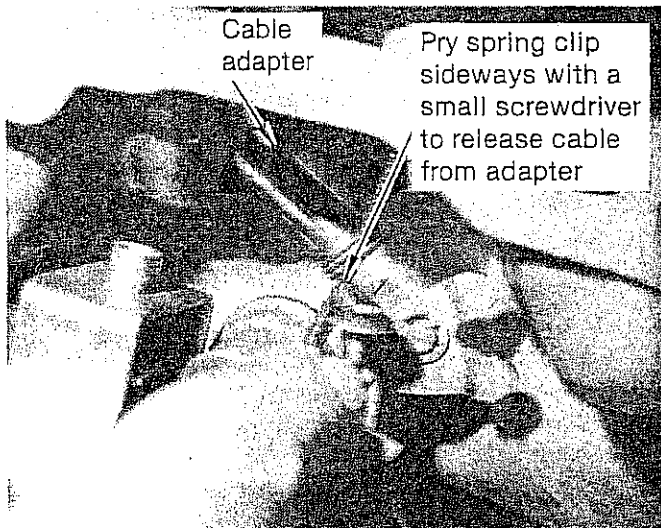

FIGURE 4
**'62-'65 models:** Disconnect shift cable. Remove oil pan and remove bolt at cable adjusting wheel. Pry back spring clip holding cable end into adapter and pull cable out. (See Fig. 4) Remove